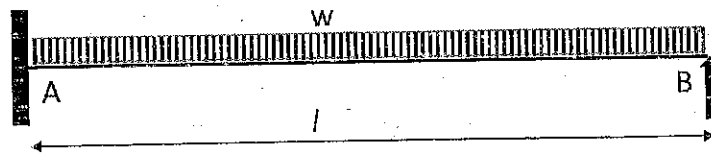

Figure 2(a)
- (a) A propped cantilever beam loaded with uniformly distributed load of  $w$  per unit length shown in Figure 2(a). Flexural rigidity of the beam is  $EI$ . Find the support reaction at B. (Hint: You may use slope deflection Method) (8 Marks)
- (b) A continuous beam ABCD, 18m long is loaded as shown in Figure 2(b). Second moment of area of the member BC is twice of member AB and the second moment of area member CD is 1.5 times AB member. During the loading support B sinks by 1 cm. Using **Slope Deflection Equations**, analyse the frame and draw the bending moment diagram. (12 Marks)